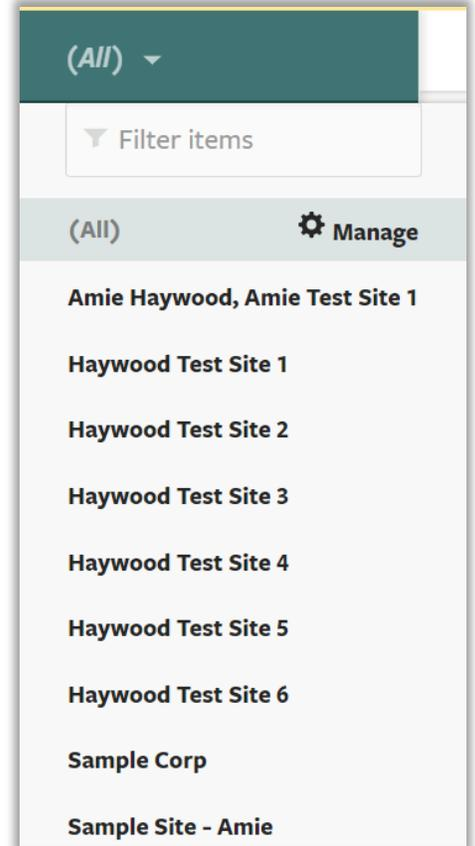

Figure 6-2 – (All)
1. Click the down arrow to see a list of your sites and click on the site you want to work on or view. See Figure 6-2.